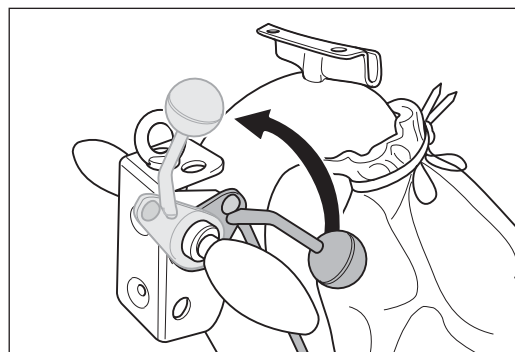

Fig. 65 Lift the sanding drum off the floor by turning the lowering lever at the handle upwards.
- 1 Lift the sanding drum off the floor by turning the lowering lever at the handle upwards (fig. 65).